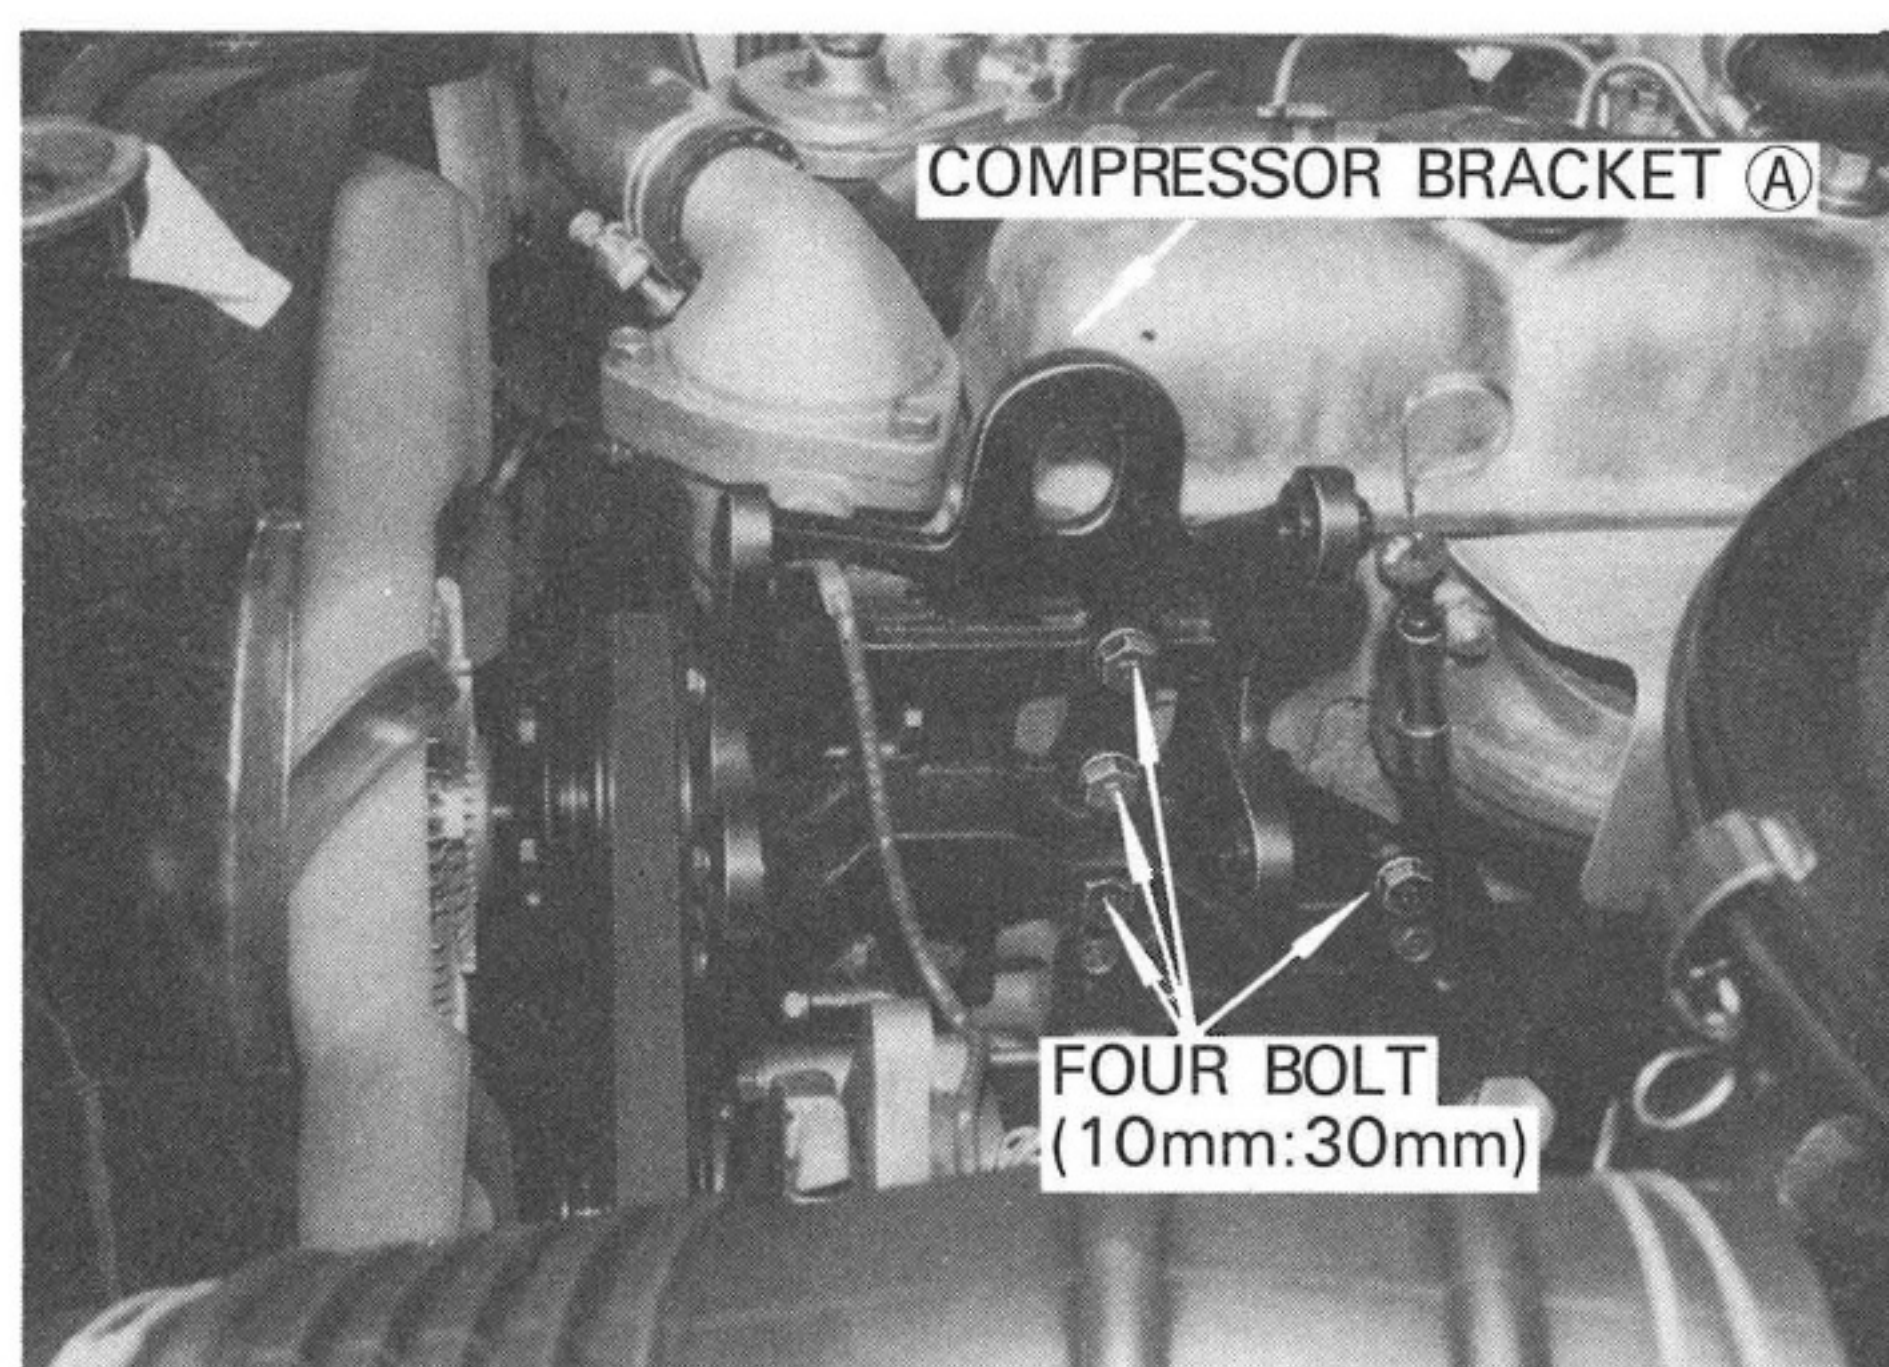
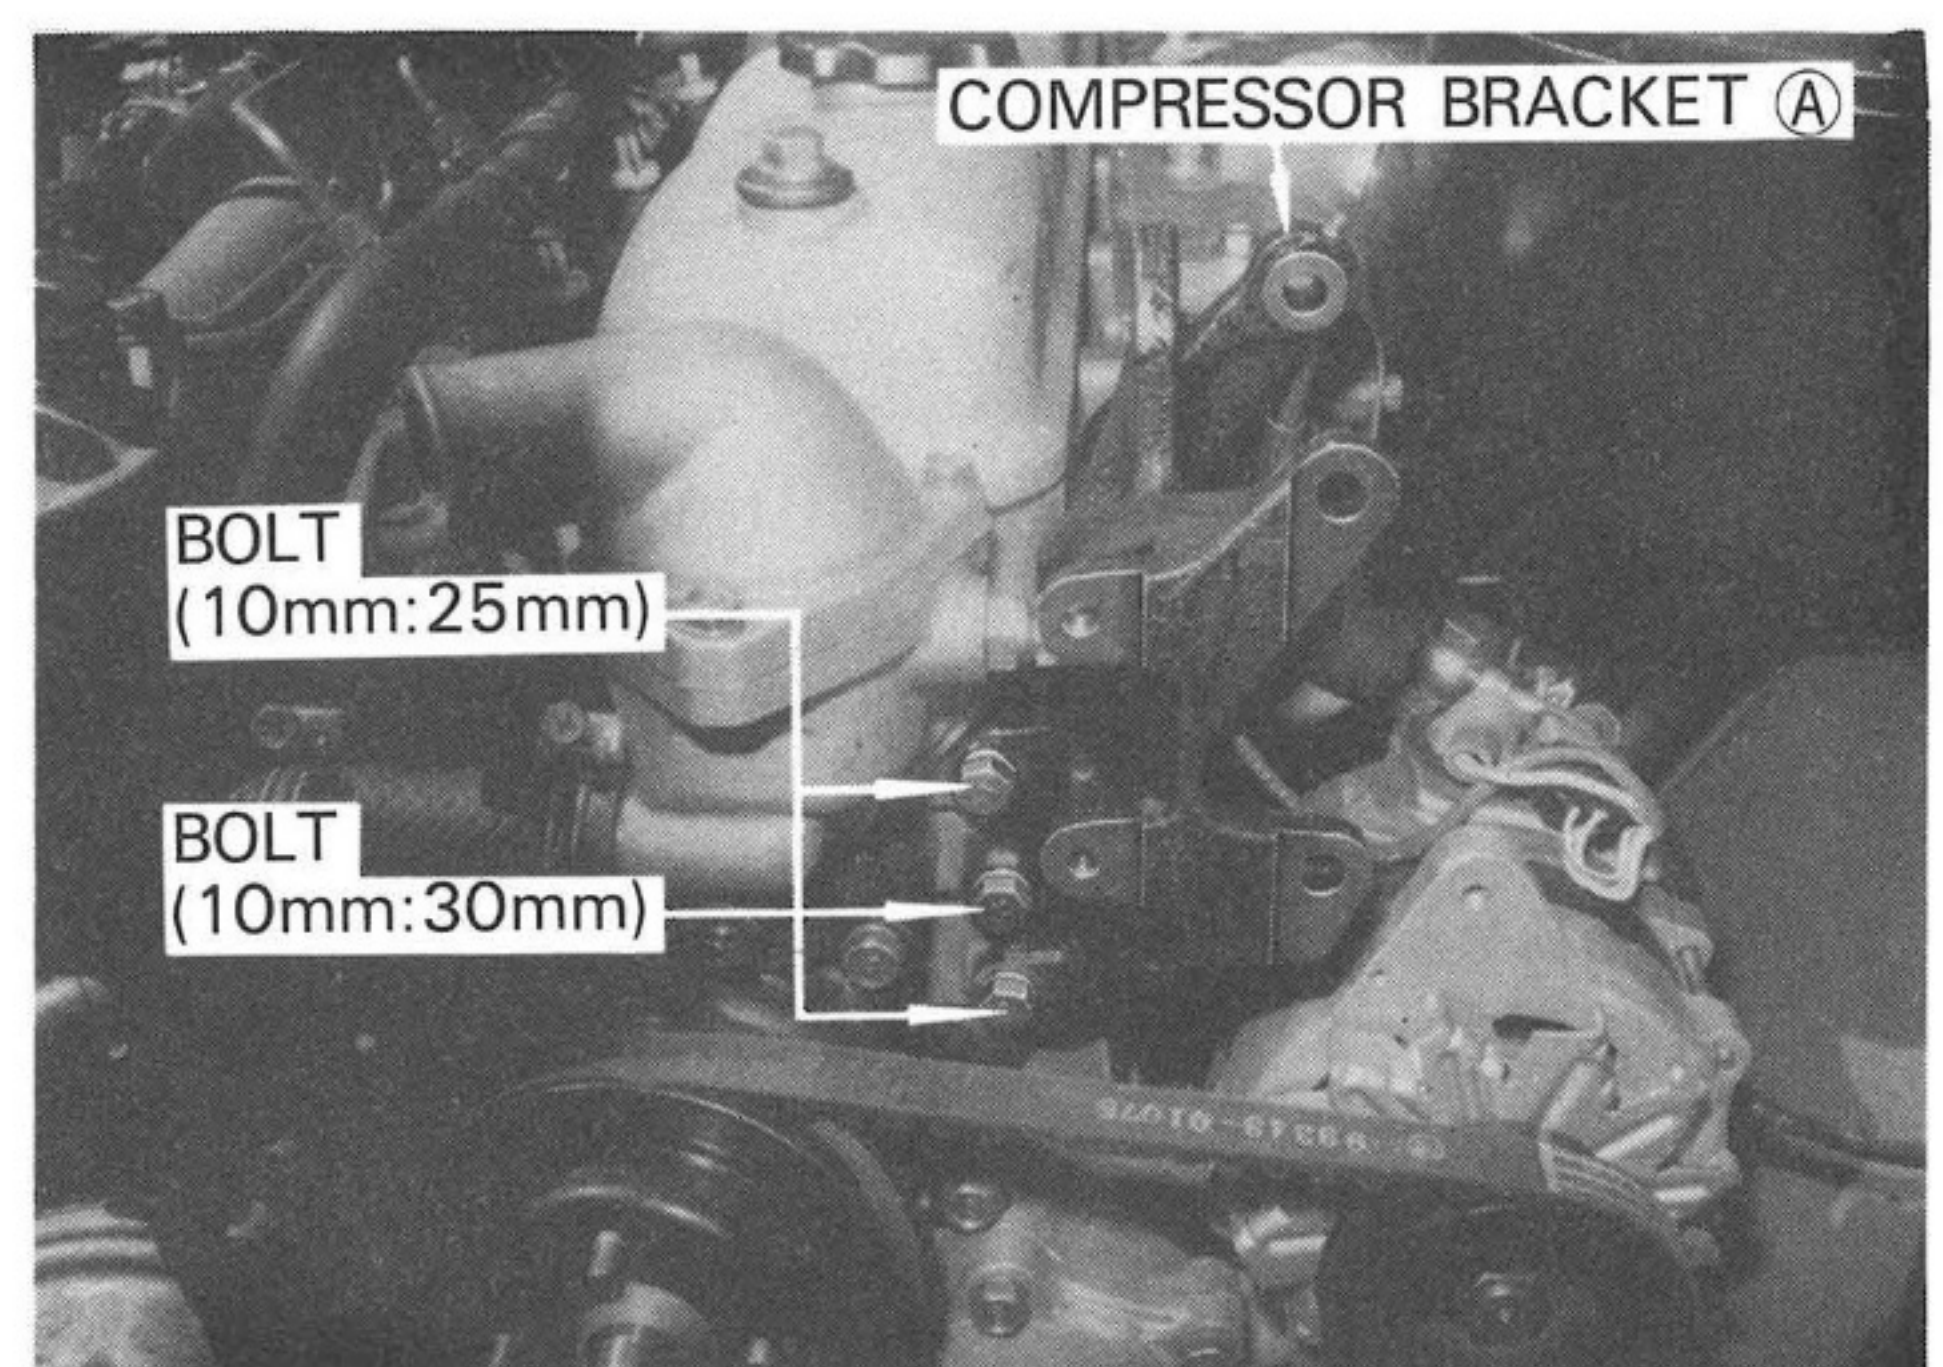

Fig. 2-3
Fig. 2-4
- A) Install compressor bracket ① to the engine using seven bolts. (10 mm : 30 mm) 5 pcs, (10 mm : 25 mm) 2 pcs). See Fig. 2-3 and Fig. 2-4.